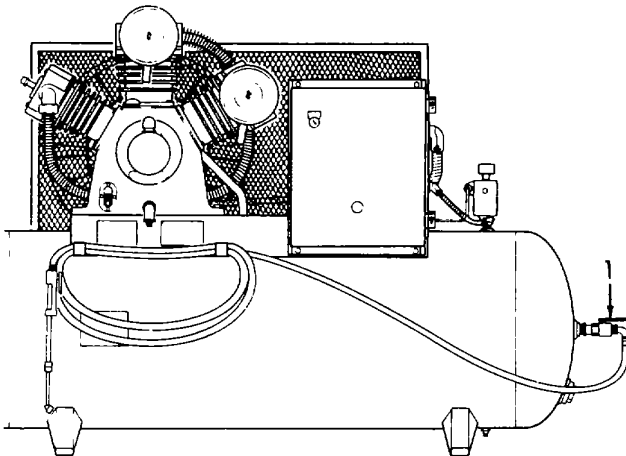

Figure 2-6. Air Shut-Off Valve Opening.
- d. Refer to Figure 2-6. To open the air receiver tank air shut-off valve (1) turn counter-clockwise and allow the air to enter the flexible hose.